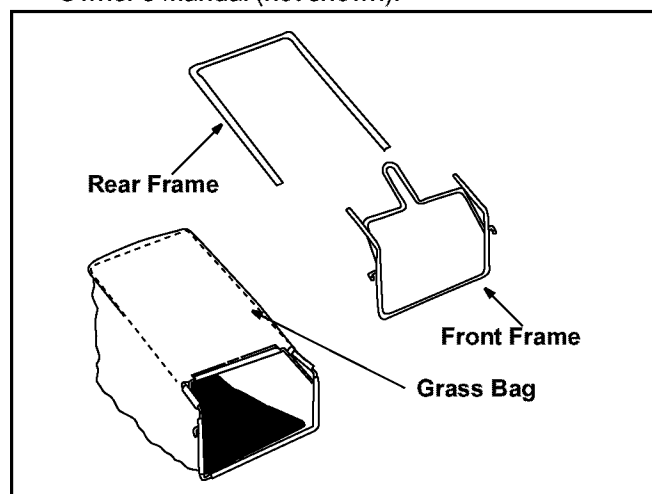

Figure 2
- Grass Catcher Assembly. Refer to Figure 2.